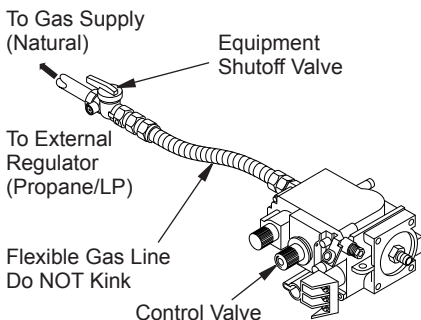

Figure 33 - Connecting Flexible Gas Line to Millivolt Valve
3. Attach flexible gas line from gas supply to control valve (see Figure 33, page 23).